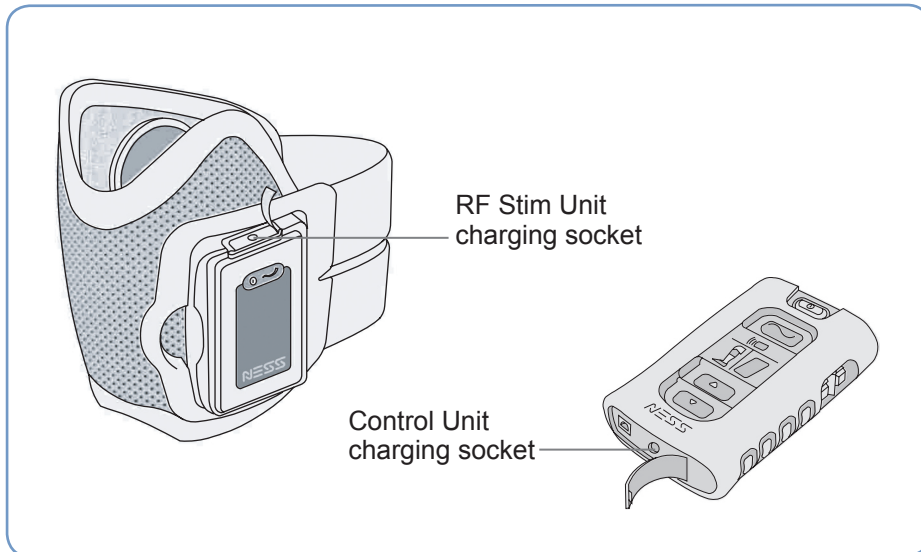

Figure 9: RF Stim Unit and Control Unit Charging Sockets
1. Open the cover of the charging socket at the bottom of the Control Unit and at the top of the RF Stim Unit as seen in Figure 9.